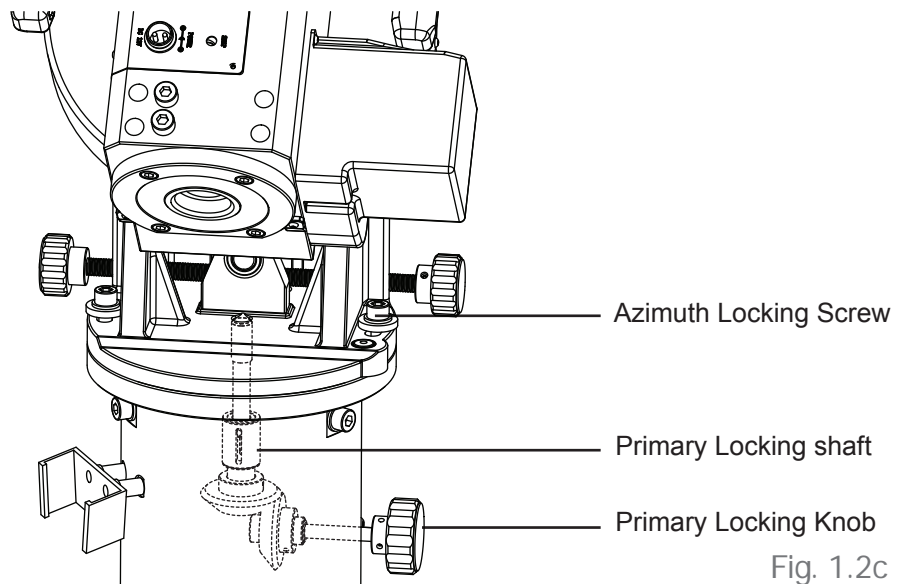

Fig. 1.2c
3. Apply the two azimuth locking screws with washers to slightly fix the mount on the tripod top. (Fig. 1.2c). Do not tighten these screws yet.
4. Turn the primary locking knob in clockwise direction to engage the primary locking shaft to the threaded hole at the center of the mount's bottom. Turn the knob until it is tightened. (Fig 1.2c)